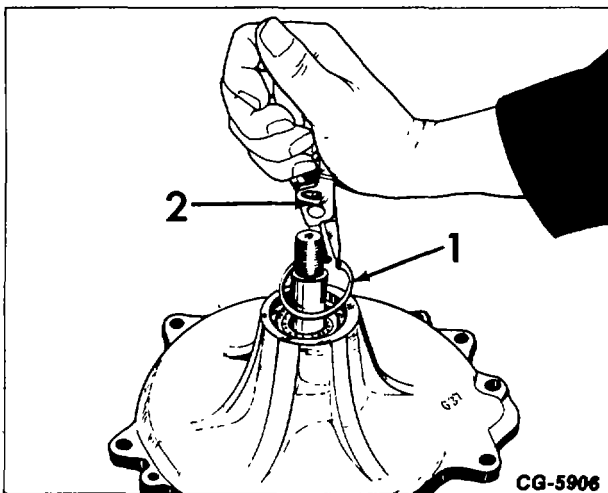

Figure 20. - Retaining Ring Removal
5. Remove the retaining ring (1, Fig. 20) using a ring expander (2) as shown.